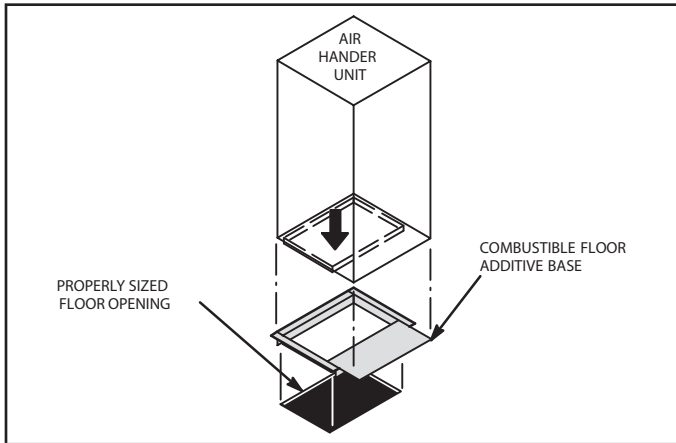

FIGURE 9. Downflow Combustible Flooring Base
- 8 - For downflow installation on combustible flooring, an additive base must be used as illustrated in figure 9. See CBK48MVT Engineering Handbook for downflow combustible flooring base kits available for this air handler.